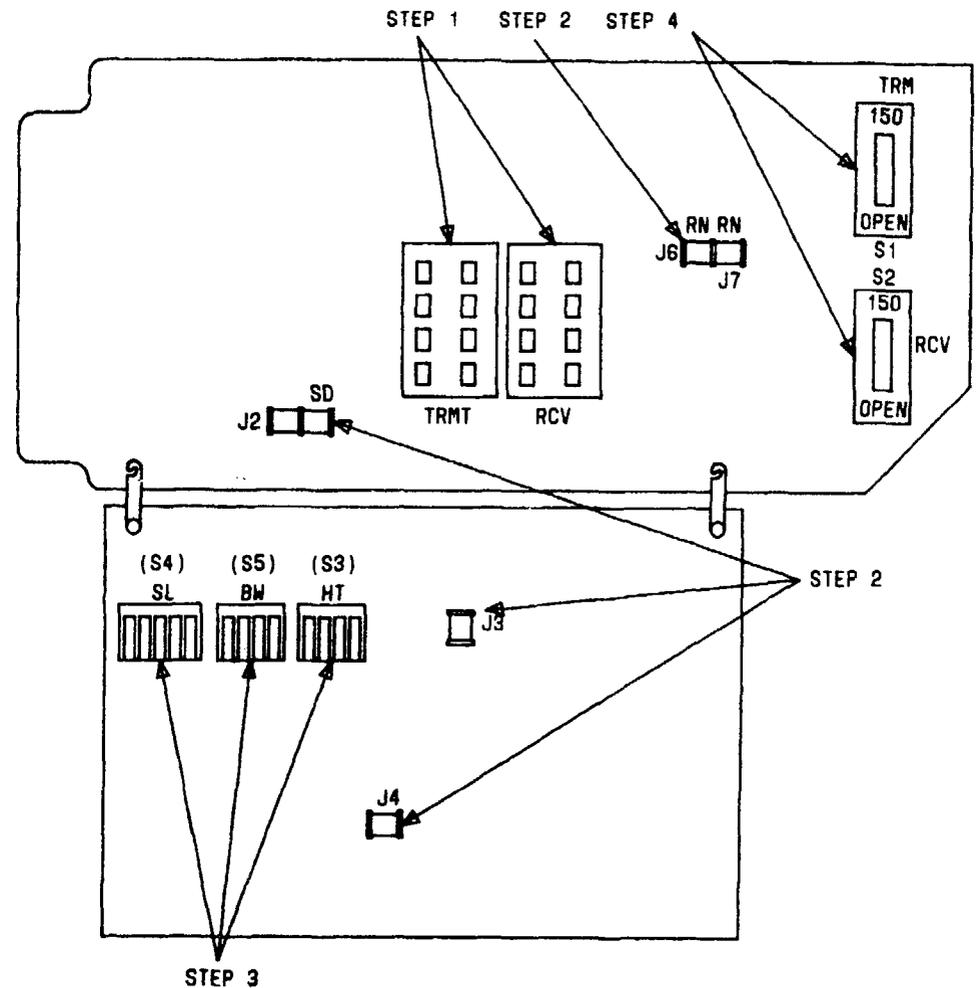

FIG. 1
- [1] From information on WORD or CLRC, set TRMT and RCV attenuators [FIG. 1] [DLP-565]